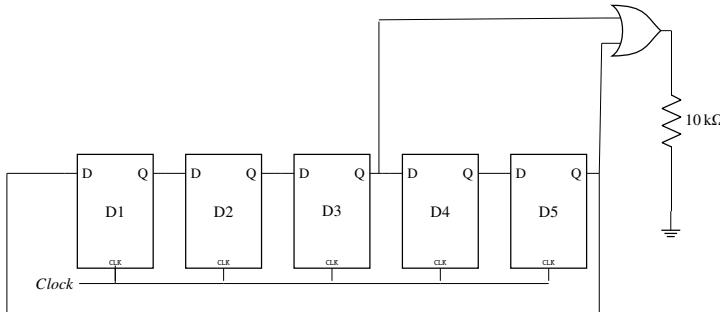

Fig. 5.26
26. Assume that all the digital gates in the circuit shown in Fig. 5.26 are ideal, the resistor $R=10k\Omega$ and the supply voltages is 5V. The *D* flip-flops D_1, D_2, D_3, D_4 and D_5 are initialized with logic values 0, 1, 0, 1, and 0, respectively. The clock has a 30% duty cycle.